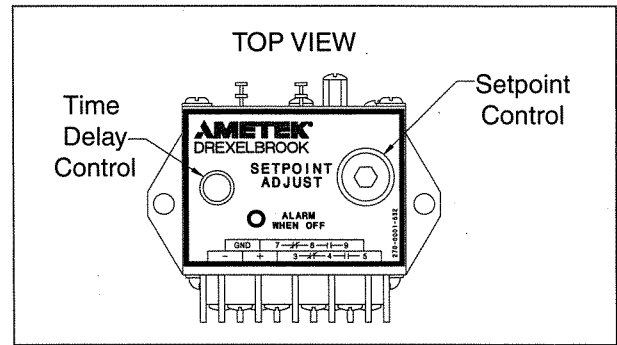

FIGURE 5-2
The optional time delay adjustment is located on top of the instrument, across from the setpoint adjustment. See Figure 5-2. It is used to help stop an oscillating relay output due to agitation or frothing in the vessel. The standard time delay is
- A. Turn the time delay adjustment to the extreme counterclockwise position (i.e. minimum time delay). See Figure 5-2.